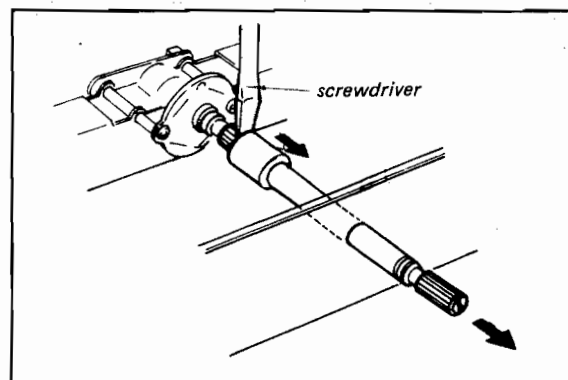

Fig. 2-13. Switch shaft removal
2. Pull out the shaft of the defective switch with a screwdriver as shown in Fig. 2-13.